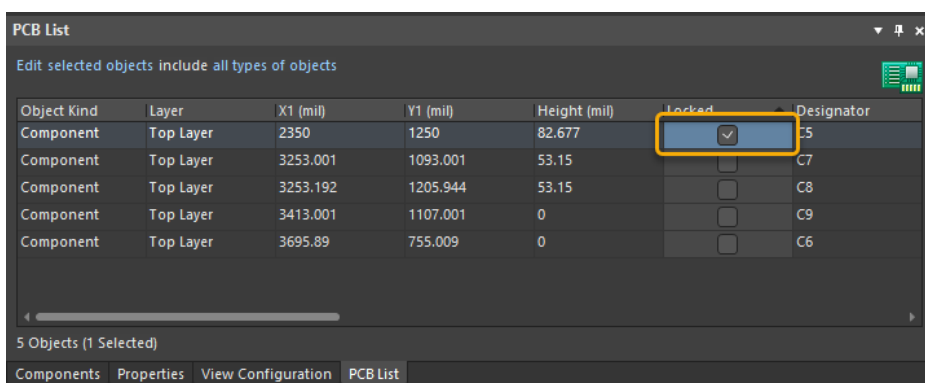

Figure 15. Enable Locked
47. Enable the **Locked** checkbox for the first component in the *PCB List* panel, as seen Figure 15